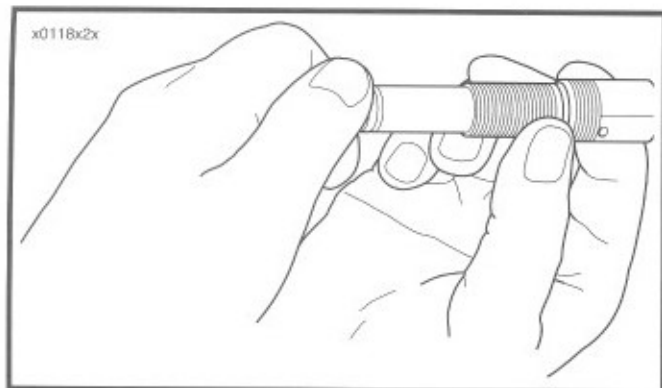

Figure 2-70
- b. See Figure 2-70. Holding thumb on detent spring and ball, back out (turn counterclockwise) rebound adjuster to last "click." Turn down (clockwise) 13 "clicks".